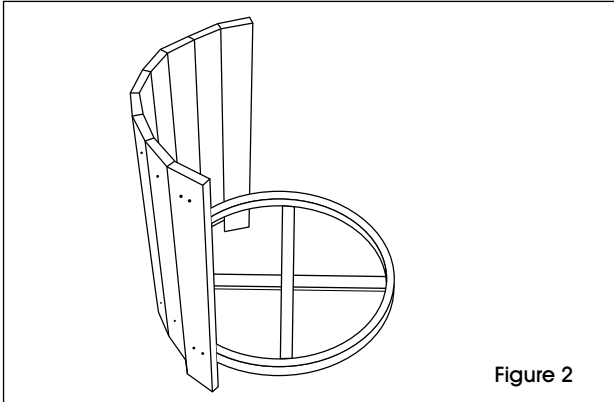

Figure 2
5. Fasten five of the 32" resinwood slats then fasten another 33" resinwood slat. (See Figure 2)